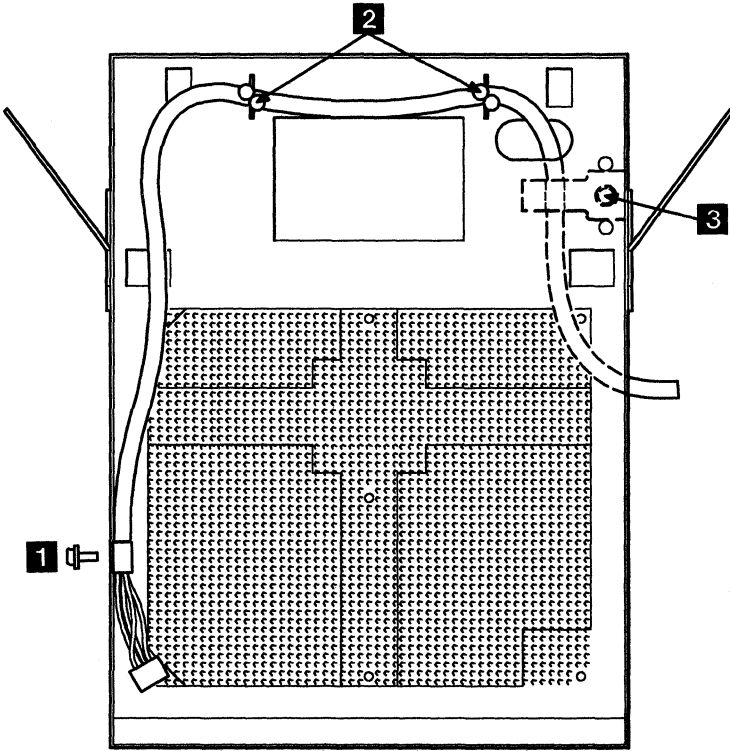

Figure 12. Removing the Signal Cable
10. Refer to Figure 12 on page 25.